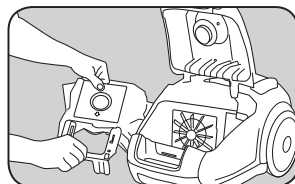

Fig. 3
5. Remove the bag by sliding the cardboard collar out of the bag holder (Fig 3).